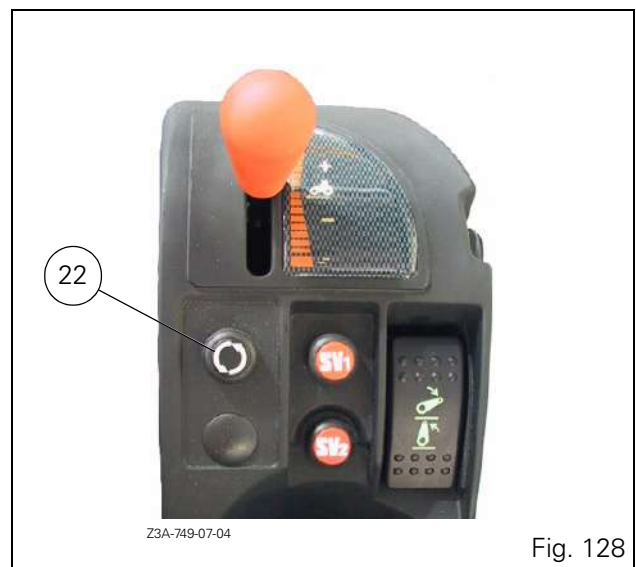

Fig. 128
- Manual mode reading. This mode requires the user to press the headland button (22 Fig. 128) to start each action.
- Press the headland button on the armrest (22 Fig. 128) for each action to perform. The icon outlined in red indicates the next action to be performed.
- Press the headland button on the armrest (22 Fig. 128) for 1.5 seconds to start reading the sequence. The actions are performed sequentially at defined time intervals (see Setting reading parameters). The icon outlined in red indicates the next action to be performed.
IMPORTANT: If for any reason it is necessary to stop reading the sequence, press the headland button (22 Fig. 128) again.